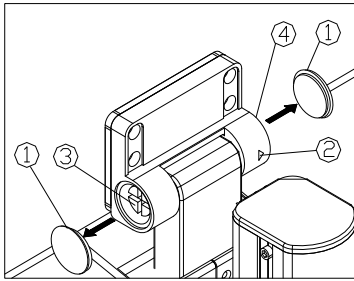

Fig. 4
1) Cuspidal tool opening the cap nuts① in two sides, Allen wrench screwing off two M3 hexagon screws② from the cap screws④, and screwing flat nuts ④ to adjust tightness meanwhile Straight screwdriver keeping rotation axle③ still. (See Fig. 4)
2) Tightening two M3 hexagon screws②, then put cap nuts back.